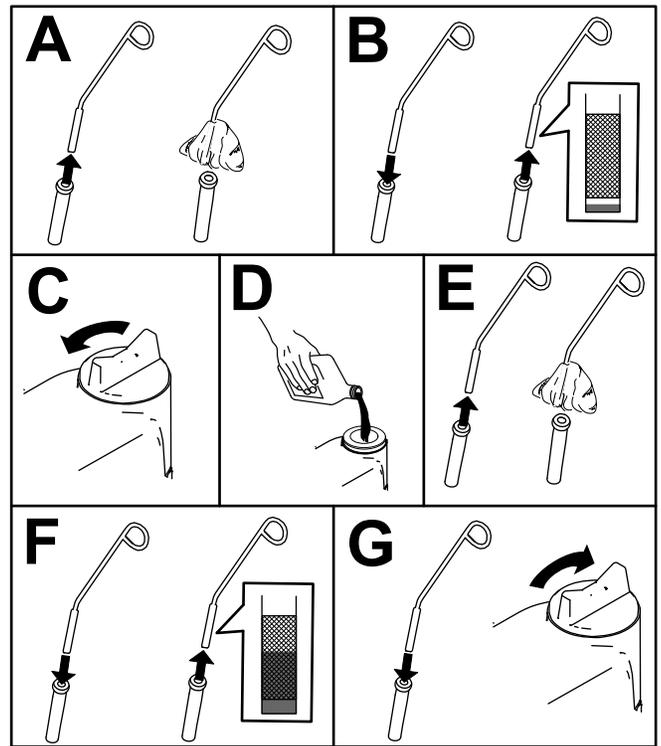

Figure 56
5. Check the oil and add additional oil as needed (Figure 56).